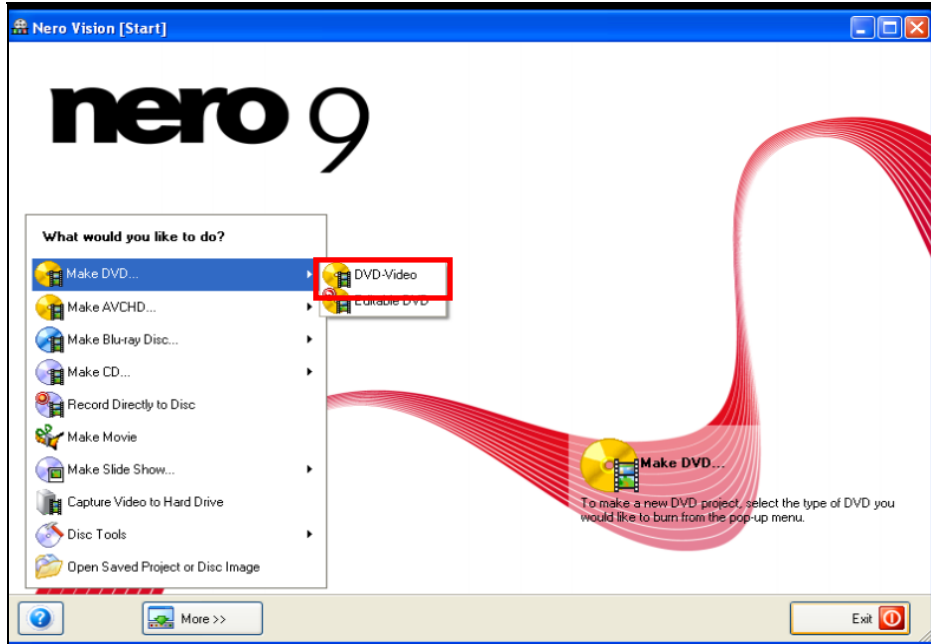

Figure 165. AAR – Select Make a DVD, DVD-Video
3. From the Nero Vision window, click on the menu icon on the bottom left, and select [MAKE A DVD – DVD VIDEO] (Figure 165).